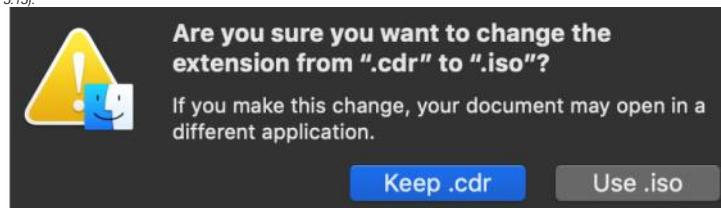

Figure 5.15 – Confirm extension change
10. You will need to confirm you want this (Figure 5.15):